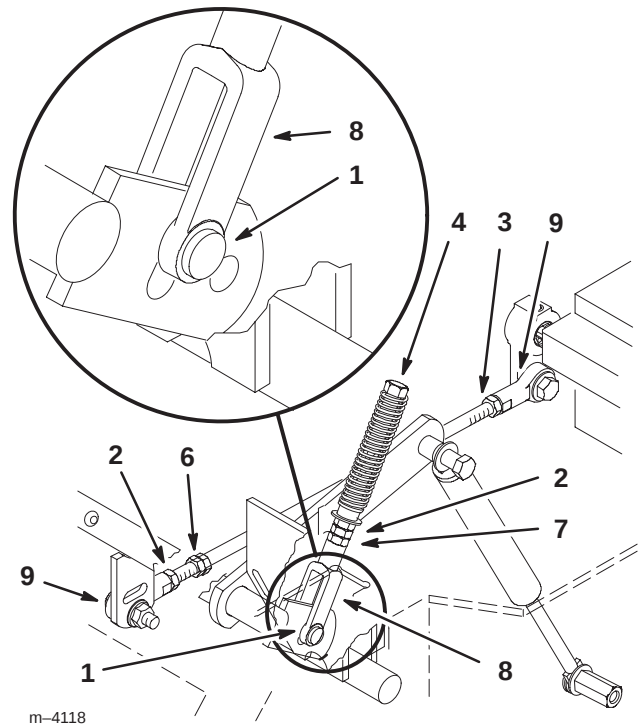

Figure 57
4. Pull lever back until the clevis pin (on arm below pivot shaft) contacts the end of the slot (just beginning to put pressure on the spring) (Fig. 57).
6. If adjustment is needed, loosen the nut and jam nut against the yoke (Fig. 57).
8. Tighten the nut and jam nut (Fig. 57).
1. Loosen the locknuts at the ball joints on pump control rod (Fig. 57).
3. Adjust pump rod length by rotating double nuts on rod, in the appropriate direction, until wheel is still or slightly creeps in reverse (Fig. 57).
6. Tighten the nuts at the ball joints (Fig. 57).